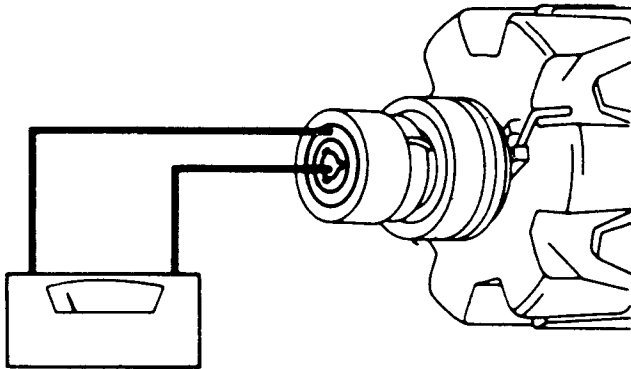

Fig O6.2
(1) Refer to Fig O6.2. Connect the ohmmeter between the slip-rings.
(2) Check that the resistance is 3,2 ohms at 20°C.